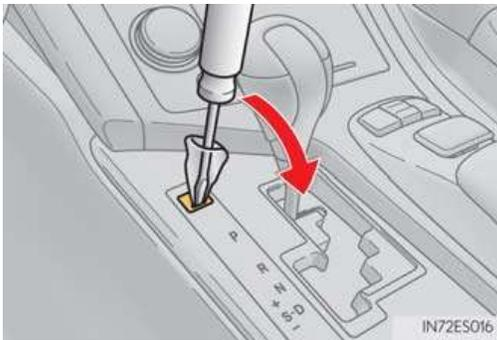

Figure 21
- Using a flat screwdriver type tool, gently pry up on the edge of the cover plug above the shifter “PARK” (P) indicator (Figure 21)